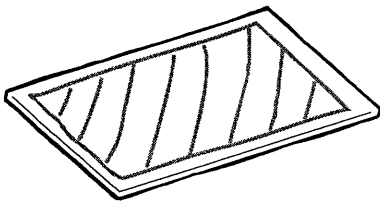

Figure 6
**20. Apply panel adhesive** in a solid bead all around the perimeter, about one inch from the edges. Be sure the bottom edge of your adhesive is higher than the vapor gap cutout on your wall. Then apply the adhesive in diagonal lines across the center of the sheet. See figure 6. Don't scribble or draw pictures! They could show through!